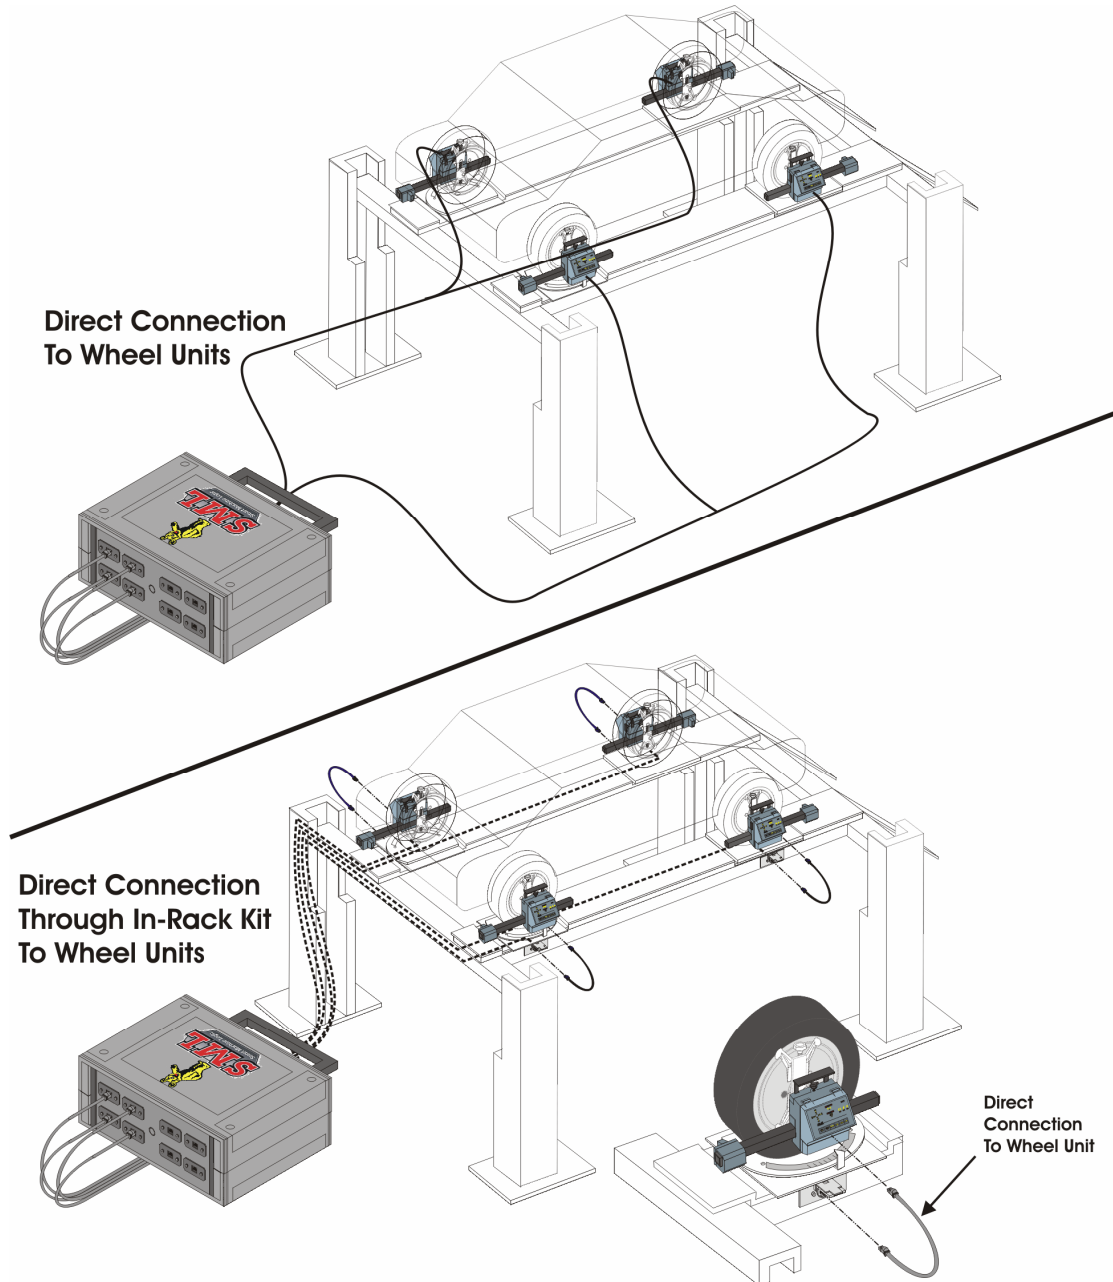

Figure 3-6. Interface Module Connections Wheel Units
3.2.4.2 If not wireless, then use Figure 3-6 as a guide, and connect the SML interface module, to the wheel units, on the vehicle.